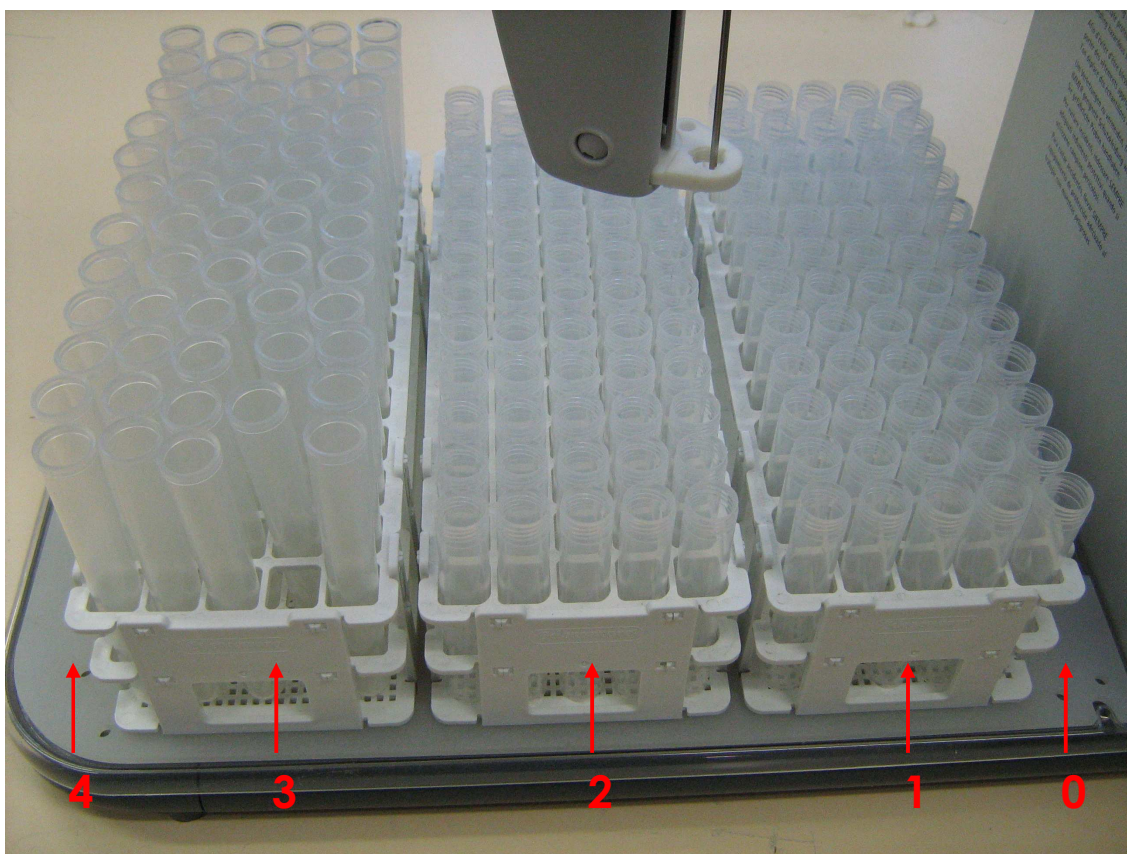

Figure 10: Rack Positions on the Fraction Collector
9. The different rack positions are shown in Figure 10